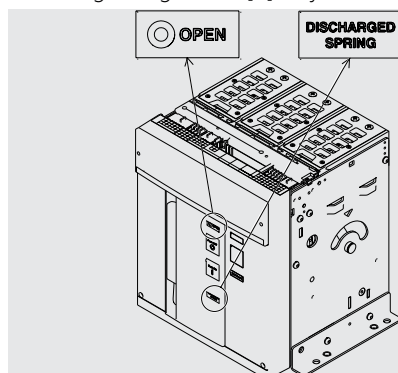

Figure 74
1. Check that the circuit-breaker is open (open / closed indicator "O - OPEN"), and check that the springs are discharged (spring signalling device "white - DISCHARGED SPRING") as indicated in Figure 74.